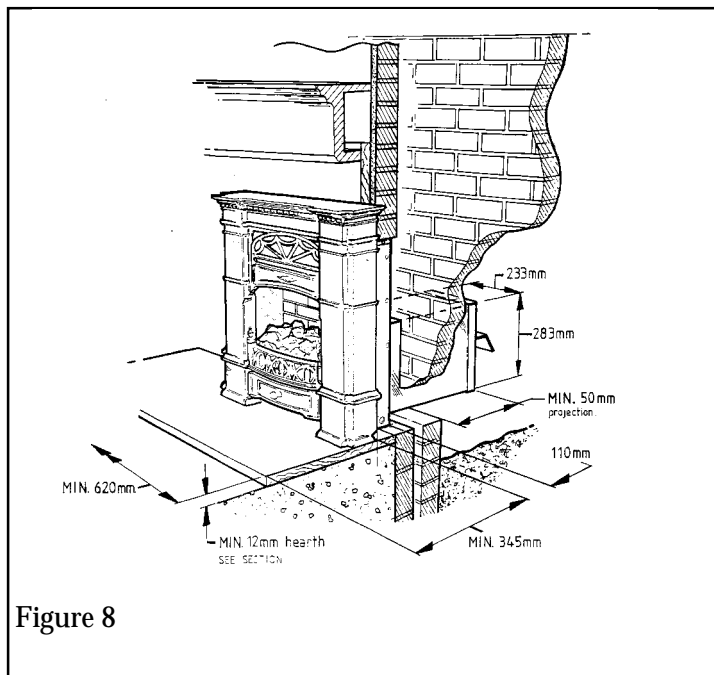

Figure 8
5.3 BRICK, STONE ETC. BUILDING. CONVECTION BOX RECESSED INTO WALL (Figure 8)
5.3.2 The non-combustible hearth must project at least 345mm in front of the convection box front flanges and be at least 620mm wide (Figure 8).
5.3.6 The rectangular hole through the wall to cater for the flue box should be to the size shown in Figure 8. The bottom of the hole should be at the same level as the top surface of the hearth. In almost every case, it will not be necessary to support this hole with a lintel. If, however the wall is of poor construction seek expert building advice before commencing to cut the hole.